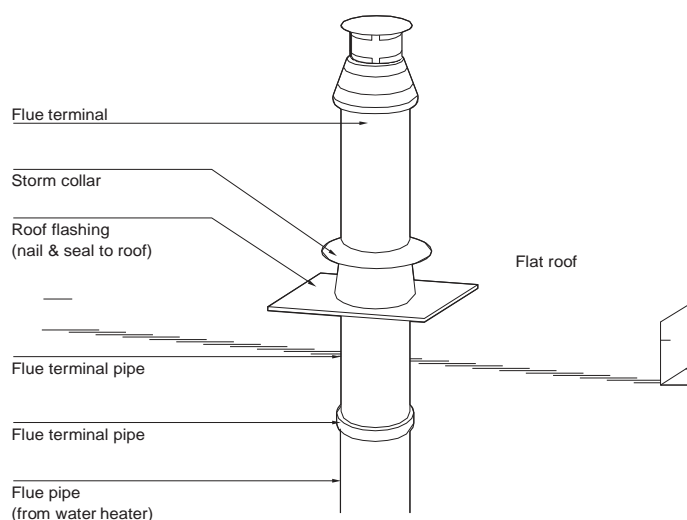

Fig. 10
- c) Cut a minimum 165mm (6.5in) diameter hole for the flue centred in the desired location for the roof terminal, see Fig. 10.